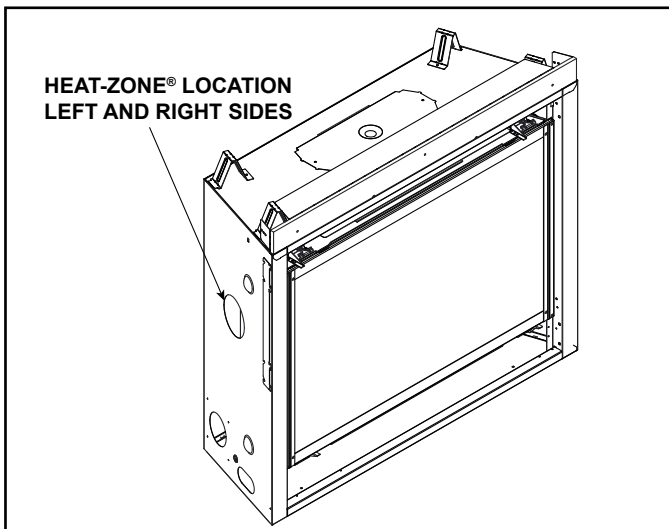

Figure 6.17 Heat-Zone® or Heat-Duct Locations
- Locate the Heat-Zone® or Heat-Duct ports on the left and right sides of the appliance. Either one or two Heat-Zones® may be installed. See Figure 6.17. Remove the knockouts from the appliance with a tin snips.